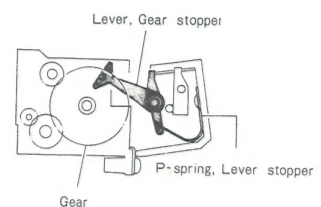

Fig. 21
- 6) Check to see if the P-spring (lever stopper) is properly set on the lever (gear stopper). (See figure 21)